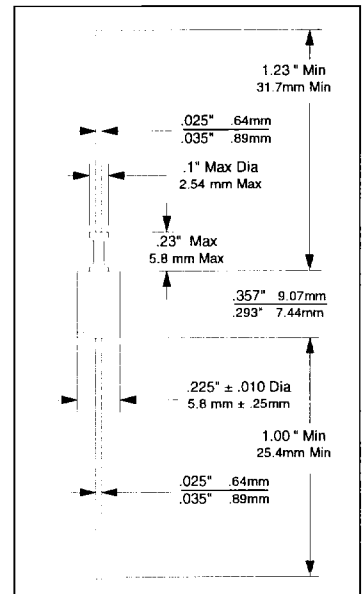

FIGURE 1
- P_p** Peak Pulse Power - See Figure 1